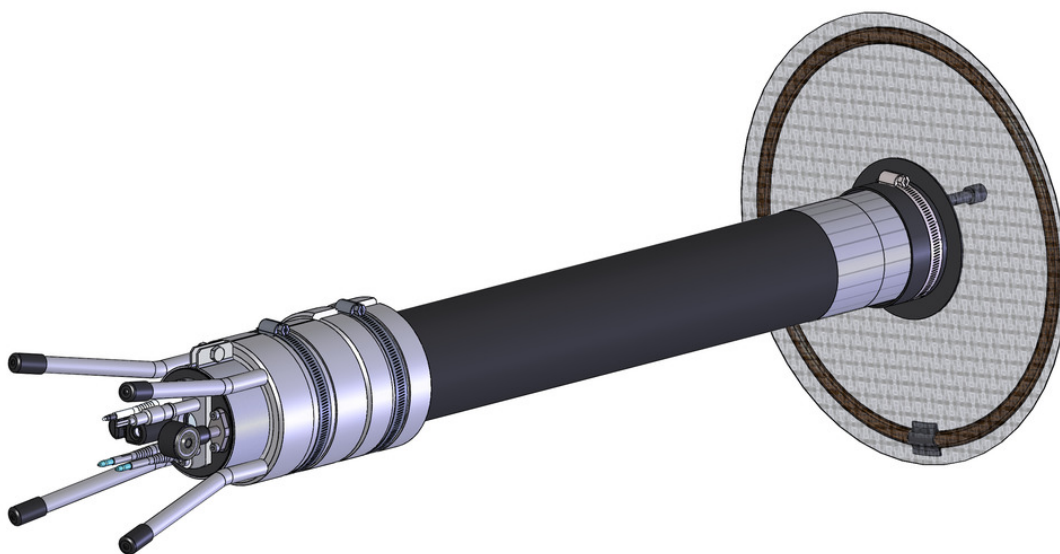

Figure 1: MicroCTD
The MicroCTD (Figure 1) is a combination microstructure turbulence and CTD profiler for lakes, reservoirs, estuaries and shallow coastal applications. The MicroCTD was designed in consultation with estuarine physicists for turbulence measurements in the unique operating environments of tidally influenced shallow waters. The profiler is shortened in length so that it can be easily handled on small vessels, e.g. Zodiac, while maximizing the profiling range in the water column. The MicroCTD uses the same microstructure sensor suite as the Vertical Microstructure Profiler (VMP) series of profilers, with an oceanographic reference Conductivity-Temperature (CT) sensor now included as standard.